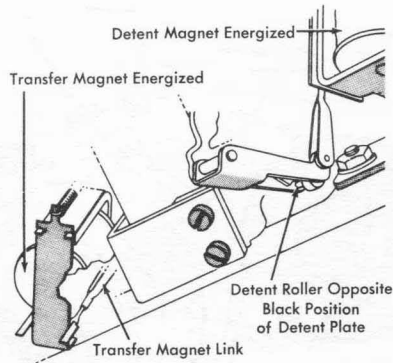

Figure 84. Transfer-Magnet-Link Adjustment
3. Adjust the transfer magnet link so that, when both magnets are held energized, the detent roller drops into the black position on the detent plate when the detent magnet armature is allowed to restore to the de-energized position (Figure 84).